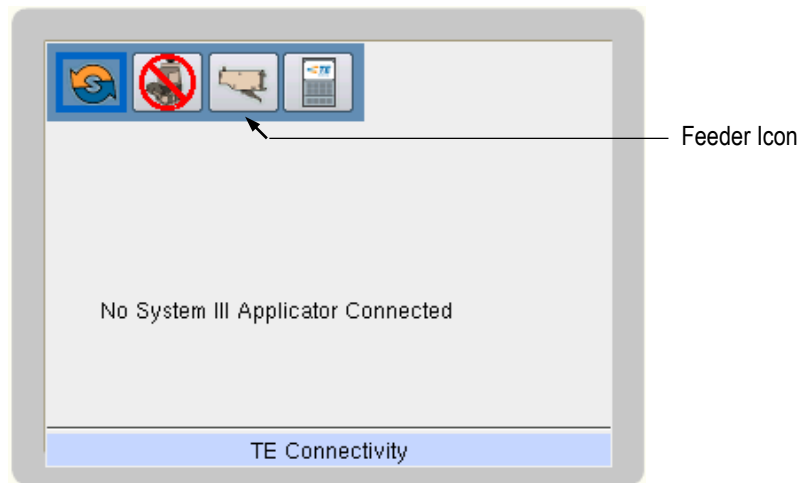

Figure 35
1. Power up the controller. At this point, no applicator is connected and the screen will appear as shown in Figure 35.
2. Use the Right navigation key to move to the Feeder icon on the main menu bar. See Figure 35.